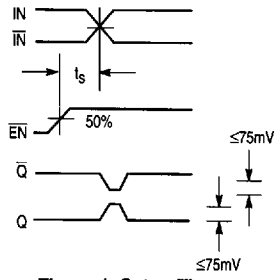

Figure 1. Setup Time
- The setup time is the minimum time that EN must be asserted prior to the next transition of IN/IN̄ to prevent an output response greater than ±75 mV to that IN/IN̄ transition (see Figure 1).